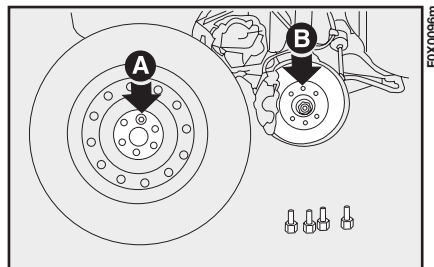

fig. 115
- 8) Make sure that the spare wheel contact surfaces are clean and that impurities are not present so that the fixing bolts will not come loose. Fit the spare wheel, aligning the holes A-fig. 115 with the pins B as appropriate.